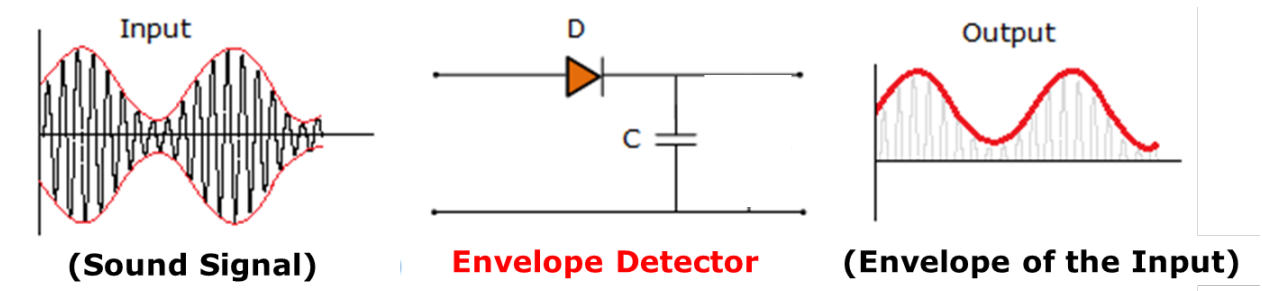

Figure 3. Envelope Detector
- An envelope detector is an electronic circuit that takes a high-frequency signal as input and provides an output that is the “envelope” of the original signal (see Figure 3).
- The capacitor in the circuit in Figure 3 stores up charge on the rising edge and releases it slowly through a load resistor when the signal falls.